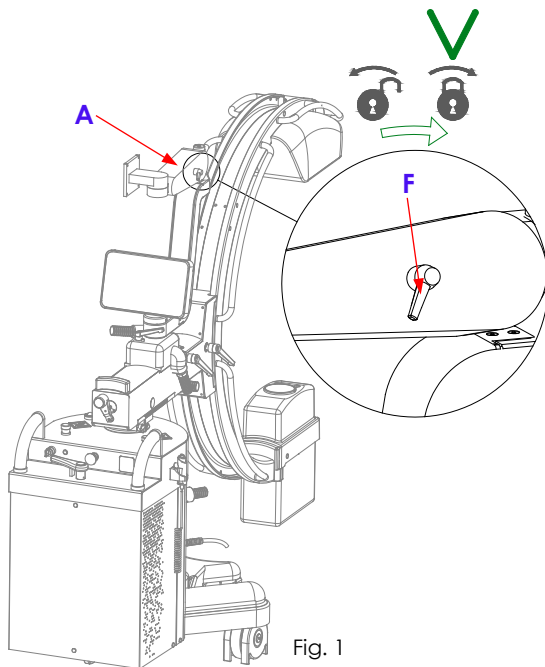

Fig. 1
- For greater comfort, lower the superior arm (**A**) manually, then lock it with the corresponding brake lever (**F**) - fig. 1.